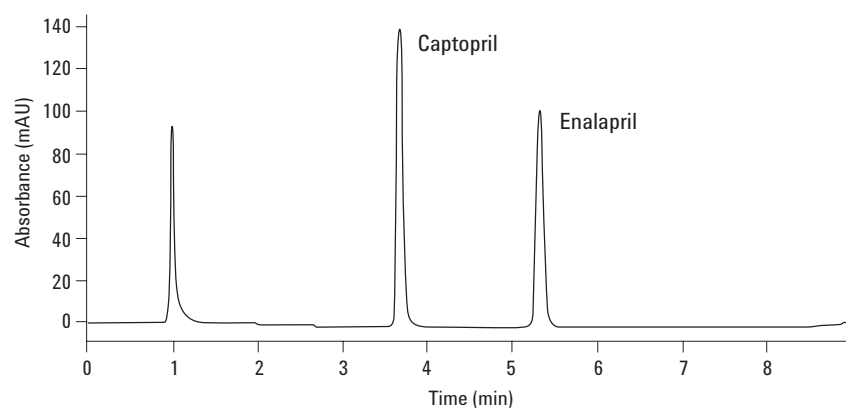
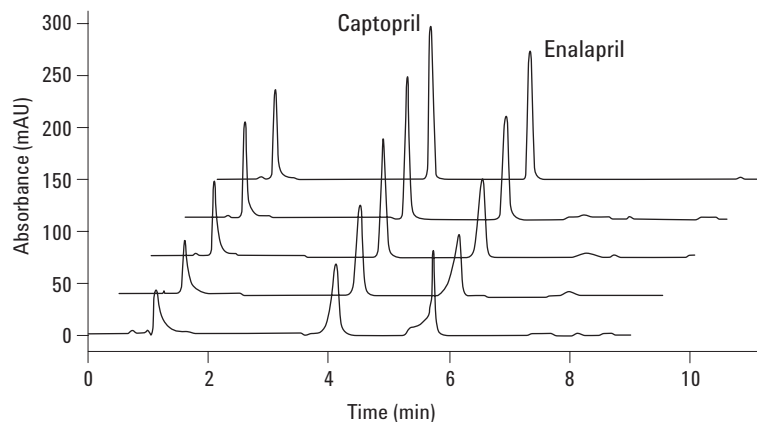

Figure 1. Analysis of two antihypertensive drugs.
Figure 2. Effect of temperature on peak shape.
Antihypertensive drugs are given to patients to lower their blood pressure. The compounds, captopril and enalapril, inhibit the enzyme that converts angiotensin II into angiotensin I. Angiotensin II is one of the strongest blood pressure decreasing substances. Figure 1 shows the separation of the two antihypertensive drugs, captopril and enalapril, using gradient analysis on a Zorbax SB-C18 reversed-phase column and UV detection. Chromatographic parameters, such as pH, mobile phase, column type, temperature, etc, can be varied to optimize an analytical method. Figure 2 shows the effect of increasing temperature on the peak shape of captopril and enalapril. Increasing the temperature improves the peak shape. The performance data of the HPLC method shown in Table 1 indicates the reliability of the analysis. The autosampler temperature was set to 4 °C to avoid decomposition of the samples.
- The SB-C18 column is suitable for low- and high-temperature analyses (Figure 2).
- The values for limit of detection (LOD), precision of retention time (RT), and peak area demonstrate the good performance of the HPLC analysis (Table 1).